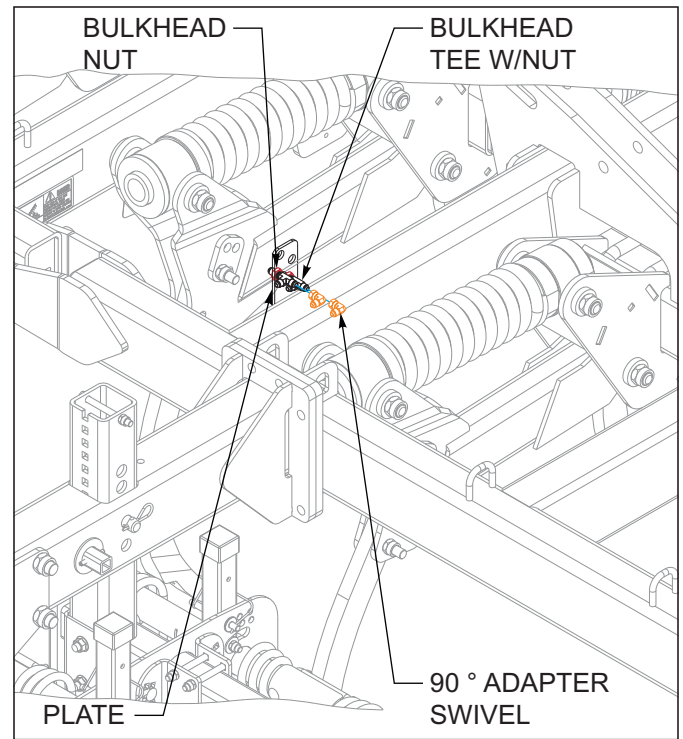

Figure 3-32: Bulk Head Fittings Installation
6. On hydraulic Chopper Reel option, install the bulkhead tee w/nut and 90° adapter swivel to plate on frame as shown See Figures 3-32.